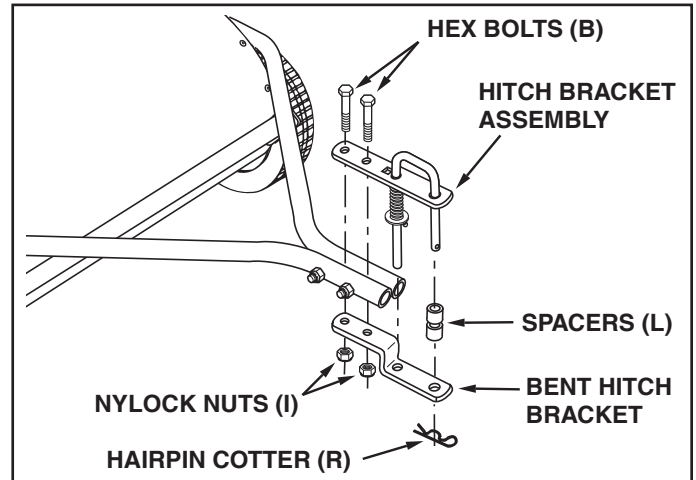

FIGURE 9
- If the tractor hitch is less than 10" above the ground, assemble the hitch brackets as shown in figure 9. Insert two hex bolts (B) through the brackets, with the rear hex bolt between the cross bolts in the hitch tubes. Secure the hex bolts (B) with two nylock nuts (I). **Do not tighten yet.** See figure 9.
- Assemble the two spacers (L) onto the hitch pin and secure the pin with the hairpin cotter (R). See figure 9.